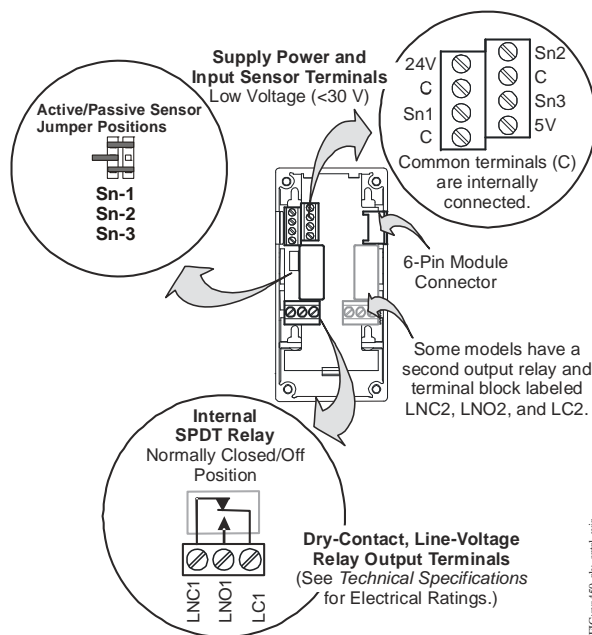

Figure 2: C450RxN-3 Wiring Terminals
See Figure 2 and Table 1 for electrical termination locations and wiring information. See Technical Specifications on page 25 for electrical ratings.
1. See Internal SPDT Relay insert in Figure 2 for more System 450 relay contact and terminal information. See *Technical Specifications* for SPDT relay electrical ratings.